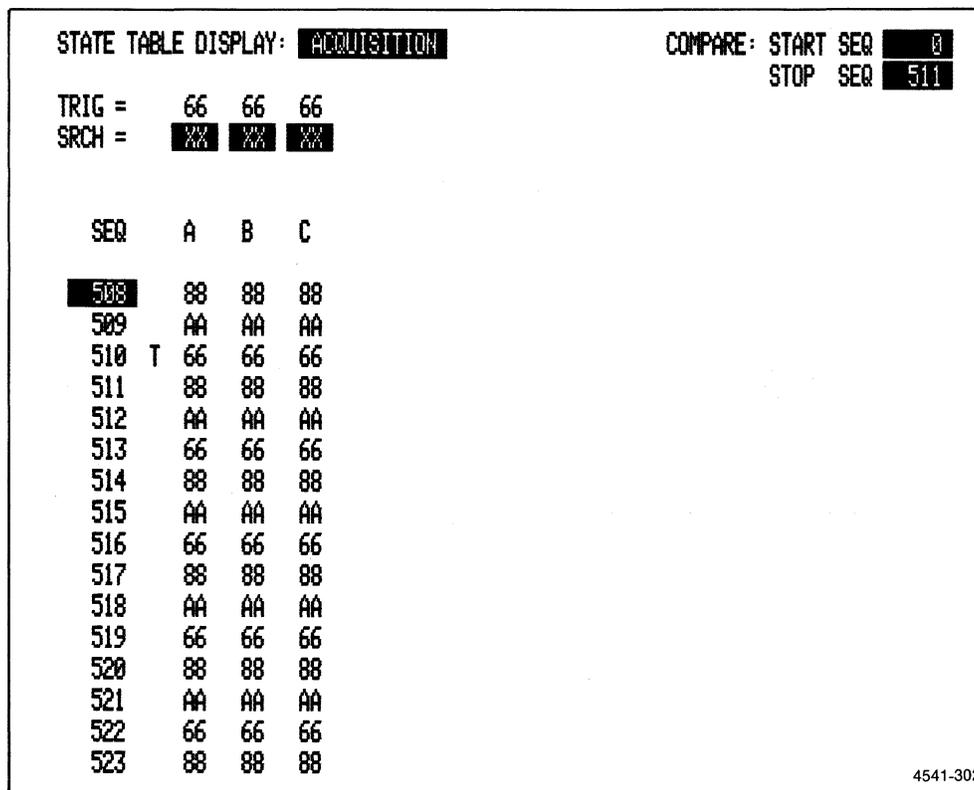

Figure 5-20. State Table display for Functional Test 12.
4. Verify that the test triggers and displays the repeating pattern in Figure 5-20.